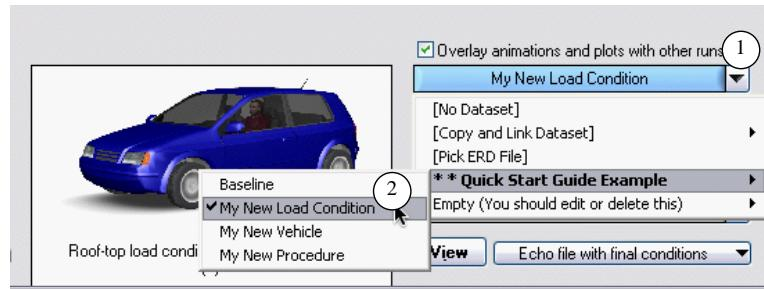

Figure 51. Change the overlay run.
18. In the lower-right region of the **CarSim Run Control** screen (Figure 51), use the drop-down list for the overlay run link to change to the run **My New Load Condition** (the run made in the previous section).